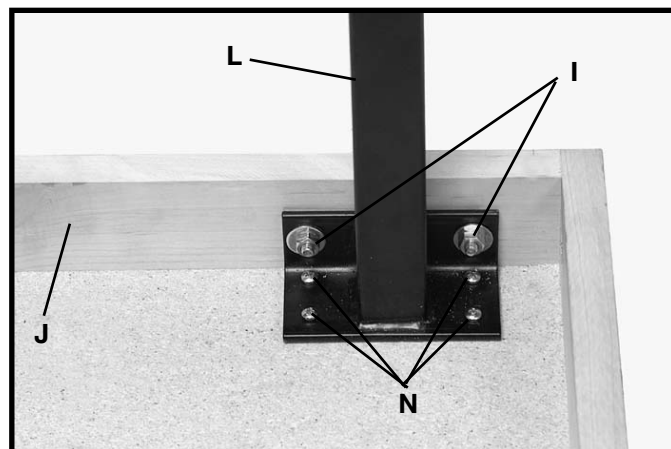

Fig. 84
9. Fasten the leg bracket (L) Fig. 84, to the underside of table top using the eight 3/4 long wood screws (N). Assemble the four 1-1/2 long flat head Phillips screws, flat washers and hex nuts (I) to the end piece (J) of the table and retighten. Fasten the remaining leg to the extension table in the same manner.